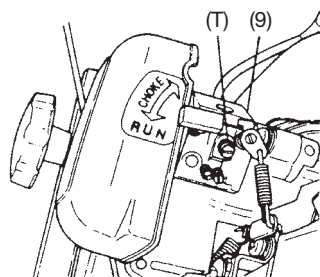

Fig. 6
5. Carburetor adjustment (Fig. 6)